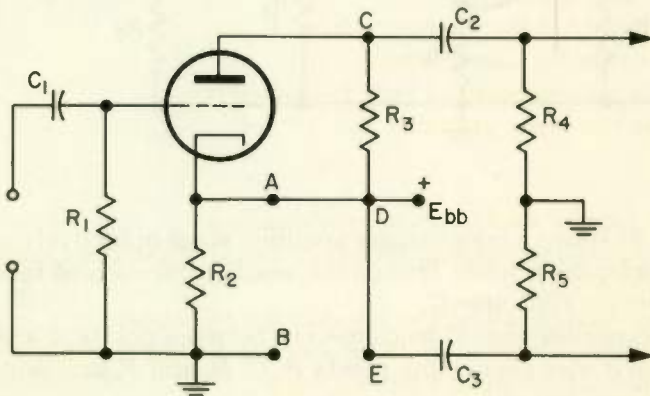

Fig. 35
- (1) Decoupling filters in the plate supply to each tube
- (2) Different coupling methods for each stage
- (3) Shielding the individual stages
- (4) Using only *RC*-coupling to eliminate magnetic fields
14. The circuit in Fig. 35 is used to supply a signal to the grids of a push-pull amplifier. This circuit needs correction as follows: